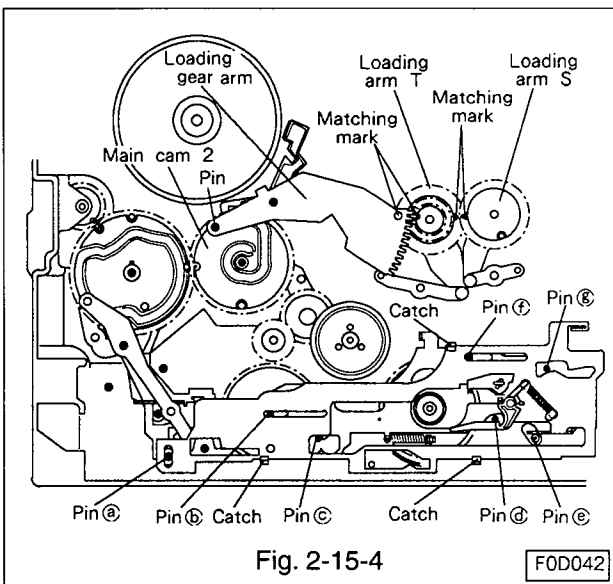
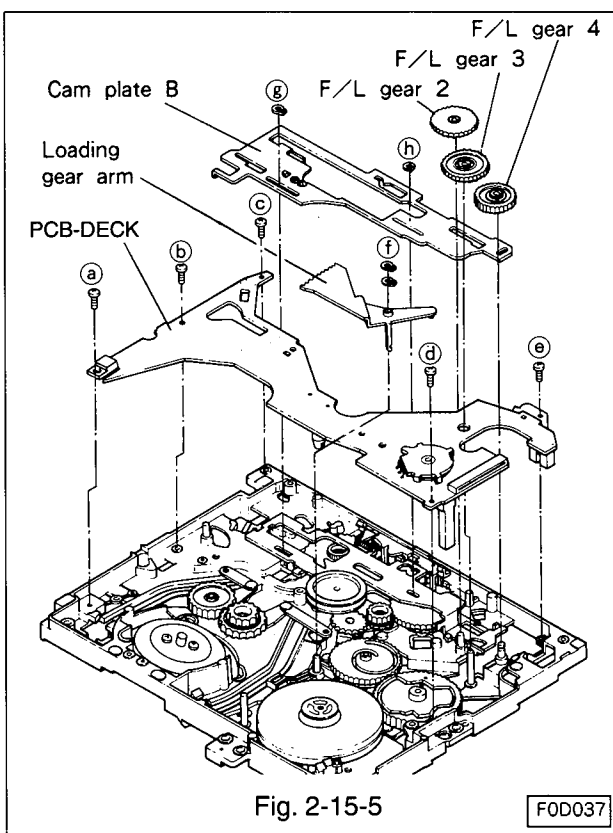

Fig. 2-15-4
Fig. 2-15-5
- J. Install the cam plate B so that the plate matches pins (a ~ g) as shown in Fig. 2-15-4, especially pin (e), and secure the plate with three clamps, cut washer (pin (b)) and grip ring (pin (f)).
- K. Line the matching mark of the loading arm T with that of the loading gear arm as shown in Fig. 2-15-4, and assemble the loading gear arm to the shaft so that the pin of the loading gear arm enters the groove of the main cam 2. Secure arm with two grip rings (f). (Refer to Fig. 2-15-5.)
- L. Assemble the F/L gear 2, 3, and 4 to the shafts as shown in Fig. 2-15-5.